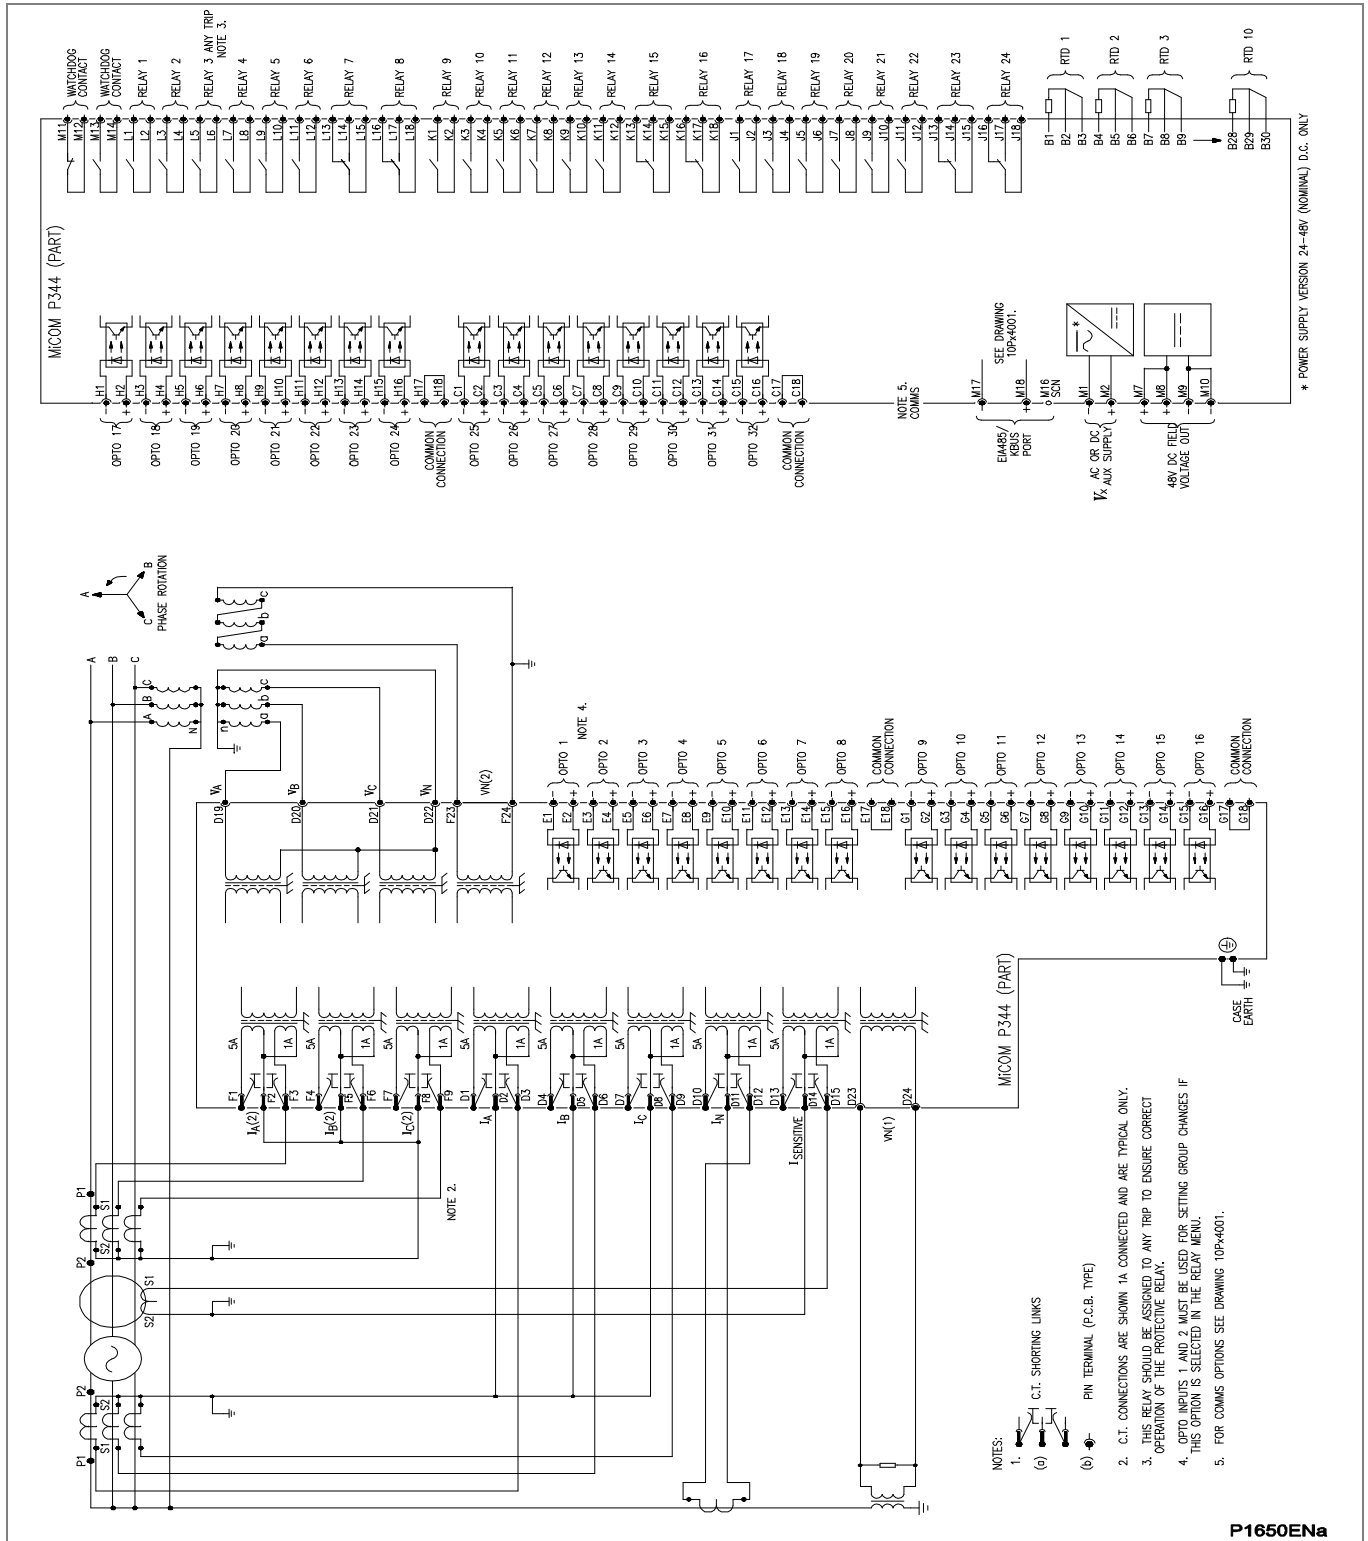

Figure 43 - P344 (80TE) with biased differential and zero sequence voltage interturn (32 I/P & 24 O/P & RTD's)
- Figure 43 - P344 (80TE) with biased differential and zero sequence voltage interturn (32 I/P & 24 O/P & RTD's)